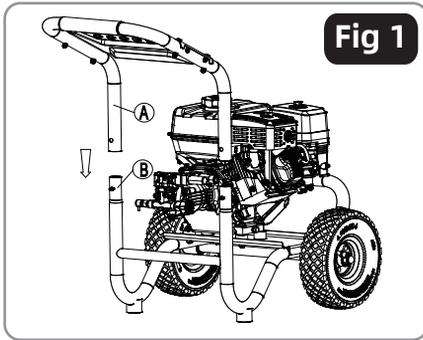

Fig 1
Align the two ends of the upper handle (A) with the two upright tubes of the engine base (B), and then press down firmly until positioning pins pop into place on both sides. Fig 1